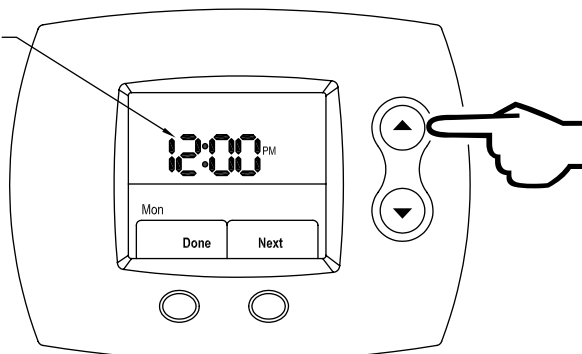

Figure 40
Step 3: The hour digit or digits will begin to flash initially. Using the **UP** (increase hour) or **DOWN** (decrease hour) buttons, change the hour until the correct hour is shown. This is shown in Figure 40.